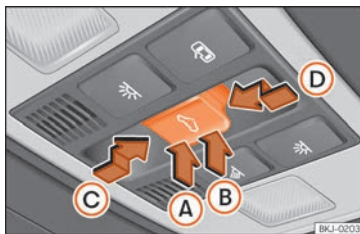

Fig. 141 On the interior roof lining: sunroof button.
The button **Fig. 141** has two levels. The first level switches the sunroof to the tilted position, opening or closing it fully or partially.
- Within approximately 5 seconds of having activated the roll-back function, press the **»» Fig. 141** button to the second level in the direction of arrow **»» Fig. 141 (D)** until the sunroof closes completely.